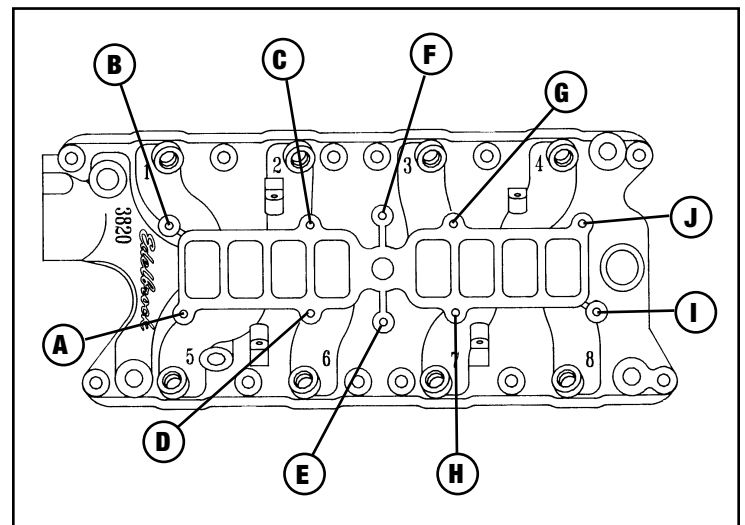

Figure 1—Intake Manifold top-to-bottom fastener locations
4. Install upper-to-lower manifold gasket (dry), Fiber Laminate Spacer, another upper-to-lower manifold gasket, and upper manifold using hardware supplied (see Figure 1 and Fastener Location chart). Upper manifold must be positioned so that the throttle body is on the passengers side of vehicle, not drivers side.